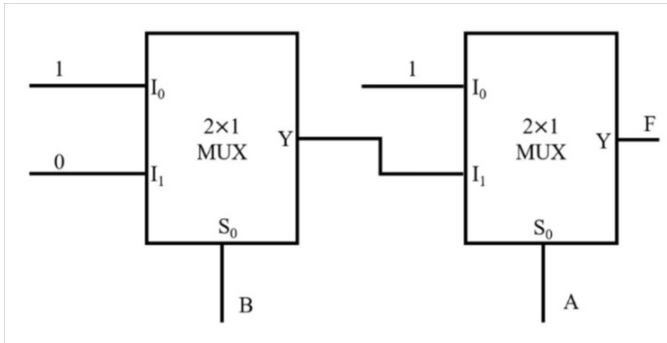

Fig. 4.24
43. The output F of the digital circuit shown in Fig. 4.24 can be written in the form(s) \_\_\_\_\_